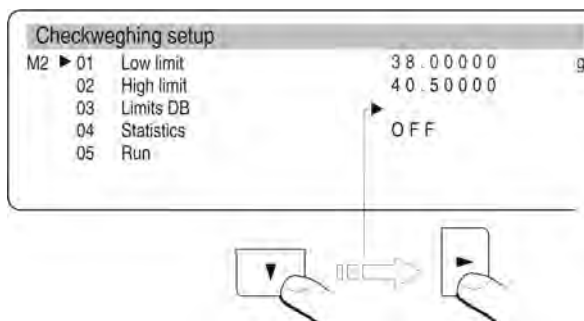

Fig. 38. Checkweighing – mode operation with enabled checkweighing limits
- 4 – TR (target) the value of target mass which is declared in mode parameters (see Fig. 38. M3 01 Target mass)